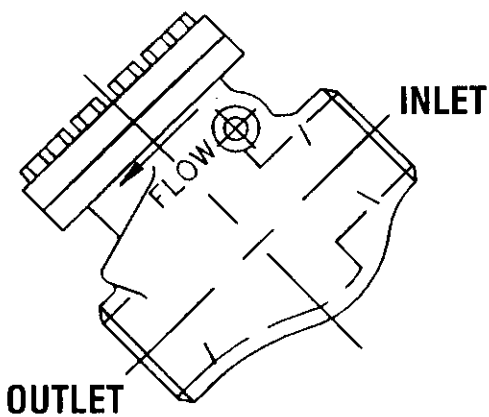

FIG. 2 DO NOT INSTALL OUTLET LOWER THAN INLET UNLESS VALVE HAS BEEN SPECIFICALLY BUILT FOR THIS SERVICE
3. Install valve in accordance with diagrams shown in Figures 2, 3 & 4. Installation angles other than those shown are not approved by the manufacturer.